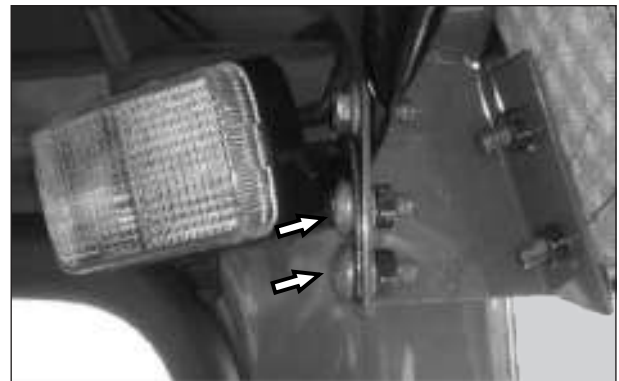

Fig. 9.27
- Mount the complete assembly of engine bay lamp on vehicle at RH side of wind shield assembly bracket soft top frame with screw. Using 2nos. CRPH screw (M6X16), wave spring washer (M6 - 2 nos.) and hexagonal nut (M6 - 2 nos.).(Fig. 9.27)